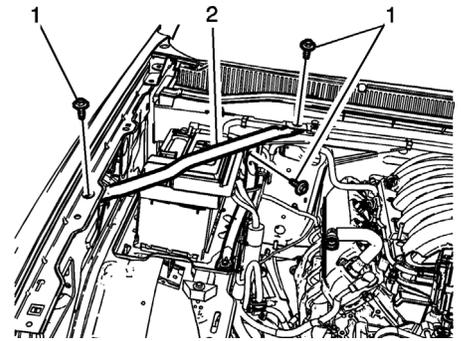

Fig. 2 Support cross brace removal
2. Remove support cross brace fasteners (1) and remove support cross brace (2) from above battery, **Fig. 2**.
5. Install support cross brace (2) and **torque** fasteners (1) to 80 inch lbs., **Fig. 2**.